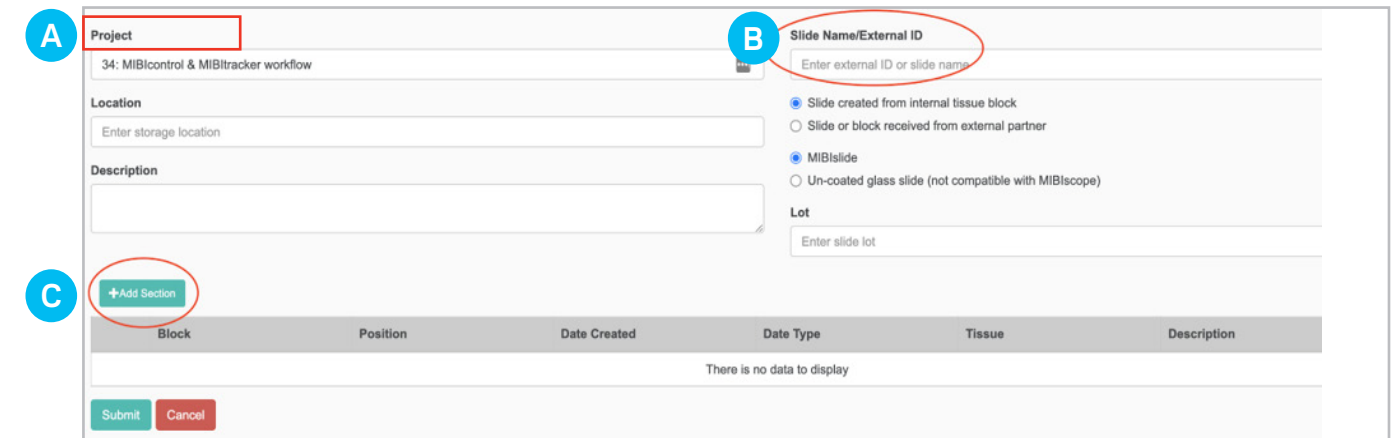

FIGURE 1.1 Slide setup.
1. On the **Slides** page, click **Accession New Slide**. Fill in any details of your slide (Figure 1.1, A). Optionally, enter a name or unique ID for your slide in the **Slide Name/External ID** field (Figure 1.1, B).
2. Define sections of your slide by clicking **Add Section** (Figure 1.1, C). Then in the table, fill in the information for each section you add. See Figure 1.2 for an example of a slide with more than one tissue section. Click **Submit** to save the new slide/ sections.